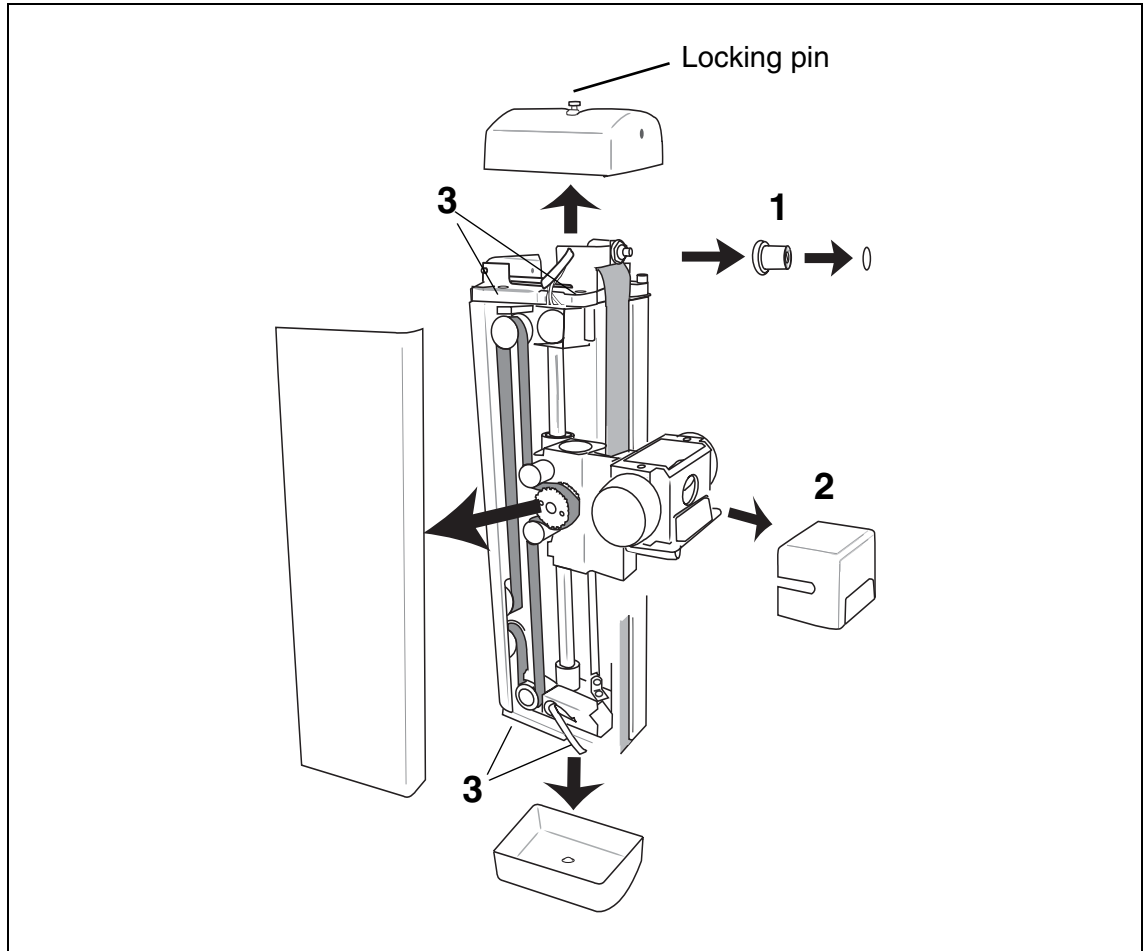

Fig. 1
- Pry open the lid on the maximum compression force presetting knob. Loosen the screw underneath the lid and remove the knob (1/Fig. 1).
- Remove the cover from the manual compression/decompression knobs (2/Fig. 1).
- Loosen the Allen screws on top and at the bottom of the compression unit holding the left side cover (3/Fig. 1). Remove the side cover.